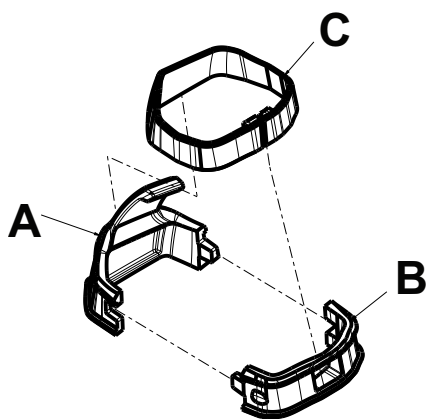

Figure 35 – IV hook components
2. Match the mating clips (A and B) and hold the two IV hook pieces on the grab bar (Figure 35).
3. Slide the IV hook collar (C) around the grab bar and the two IV hook pieces (Figure 35).